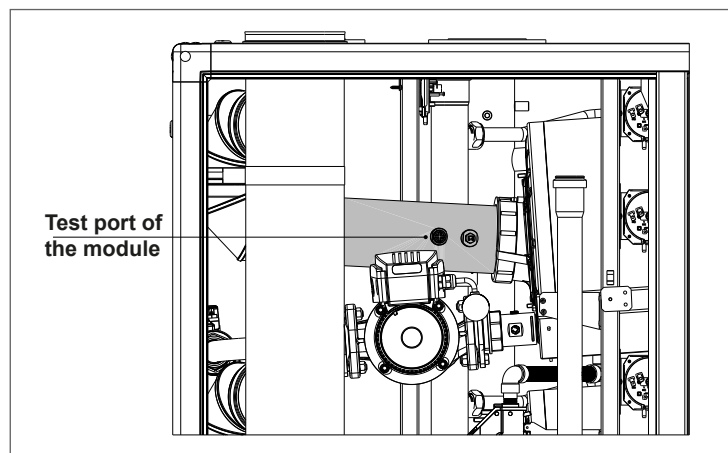

Fig. 14 Test Port for Combustion Analysis (available on each individual heat exchanger)
- Insert a combustion analyzer probe into the test port shown in Fig. 14